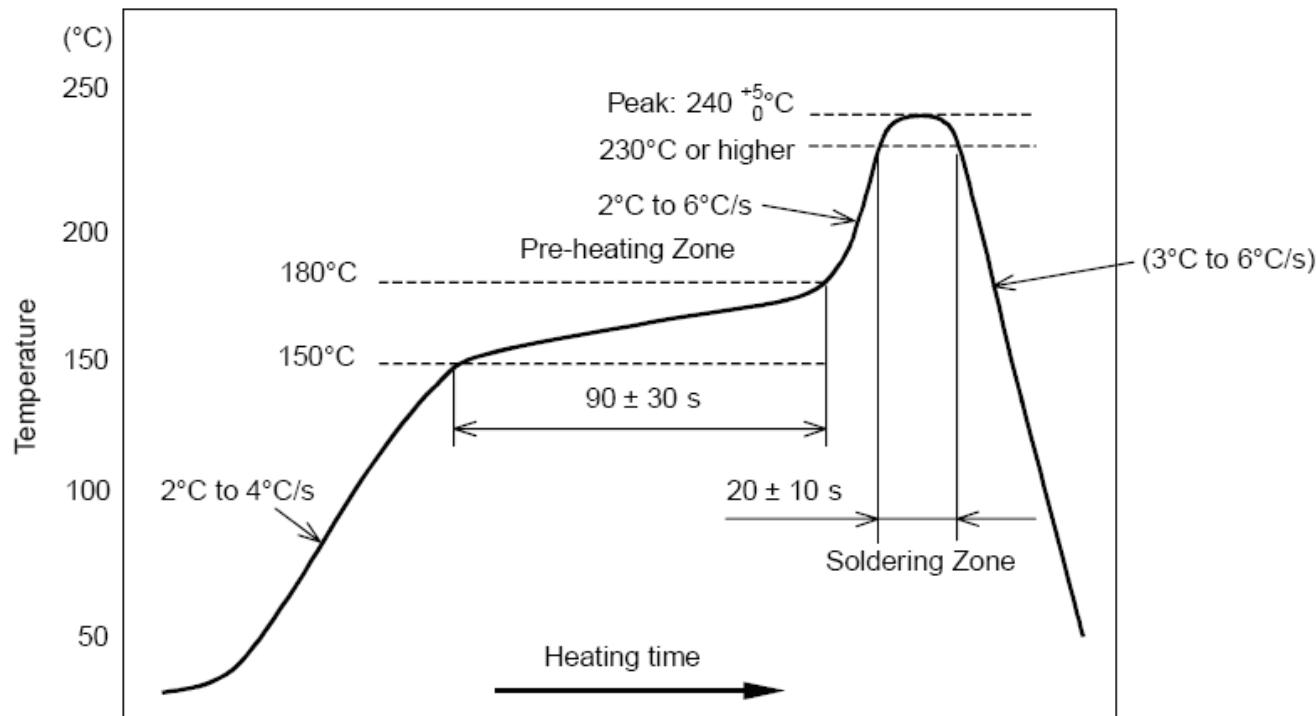

図 11-1. Temperature Profile for Evaluation of Solder Heat Resistance of a Component (at Solder Joint)
- Temperature measurement: Thermocouple  $d = 0.1$  mm to  $0.2$  mm CA (K) or CC (T) at soldering portion or equivalent method
- Allowable reflow soldering times: 2 times based on the reflow soldering profile (see 図 11-1)
- Temperature profile: Reflow soldering will be done according to the temperature profile (see 図 11-1)